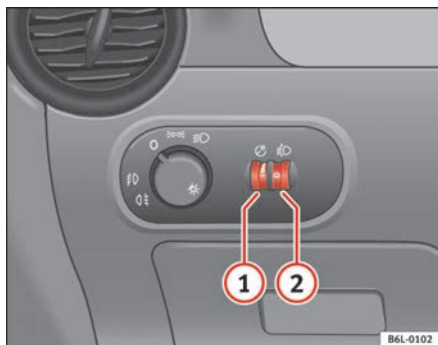

Fig. 58 Instrument panel: regulation for instrument and switch illumination and headlight range control
When the headlights are switched on, the brightness of the instruments and switch lighting can be regulated to suit your requirements by turning the thumb wheel ⇒ fig. 58 ①.